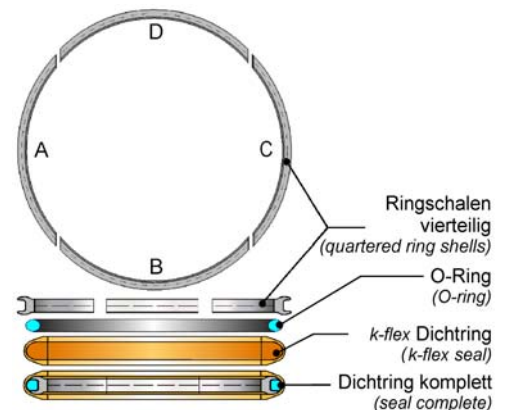

Fig. 4
- Assemble the ring shells as in the Fig. 4 /Page 7 in the order A, B, C, D